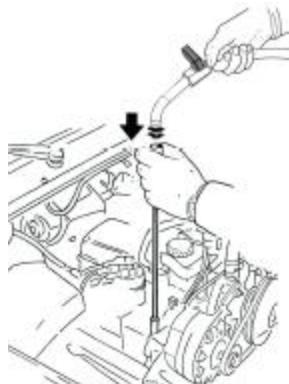

FIG.2
- Connect the nozzle of the suction pipe to the probe dipped in the engine. (figure 2))